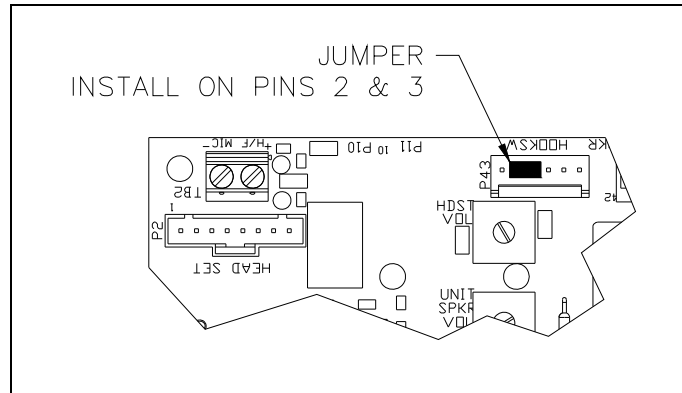

Figure 2. Jumper Detail on Audio Interface PCBA
- Replace the Audio Interface and Intercom PCBA assembly with the kit PCB assembly. Attach the kit PCB assembly to the front panel using the four screws removed in step 3. If the station is a hands-free version, install the jumper on P43 as shown in Figure 2.